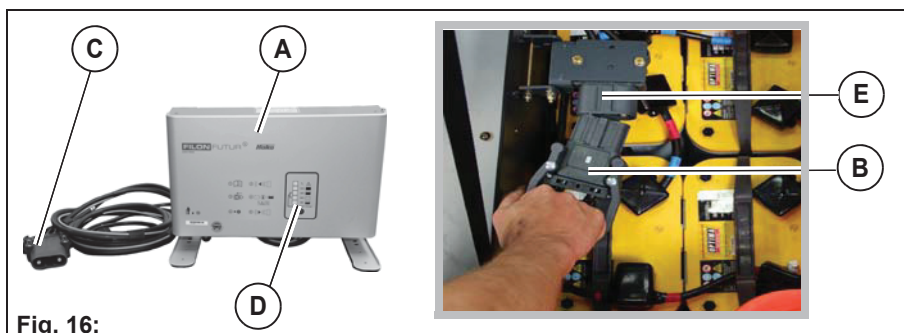

Fig. 16:
The batteries are charged with the charger **Fig. 16-A**. The batteries can already be charged when one segment in the charging status indicator **Fig. 14-51** has gone out.
2. Disconnect the battery plug **Fig. 16-B** on the machine.
3. Connect the battery plug of the machine to the charger **Fig. 16-C**.
5. During the charging process, the battery charging status is displayed in the display **Fig. 16-D** of the quick-charger. In the meantime, the charging control indicator **Fig. 14-51** in the display panel is not active!
- Disconnect the battery plug from the charger and reconnect it to the machine **Fig. 16-E**.